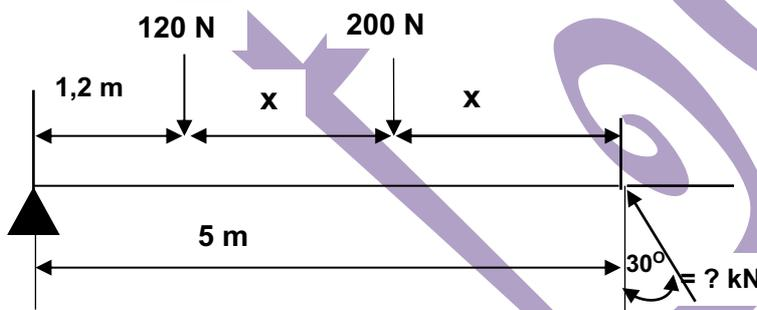

FIGURE 2
2.3 Calculate the turning moment about the fulcrum in FIGURE 2 below.